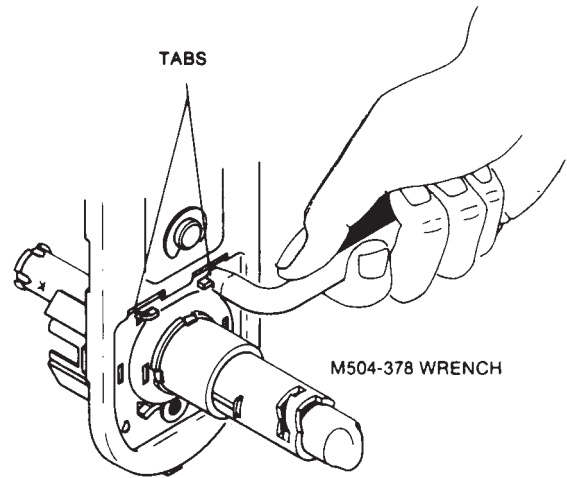

Figure 13.96 Right-hand conversion, Step 4.
4. With a factory-supplied wrench or long-nosed pliers, straighten the tabs (Fig. 13.96).